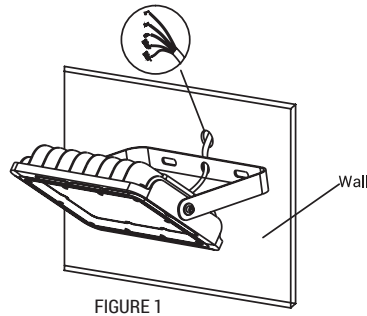

FIGURE 1
- Step 2: Fix the fixture on the wall or ground through the holes on the bracket (Fig 1 & 2).